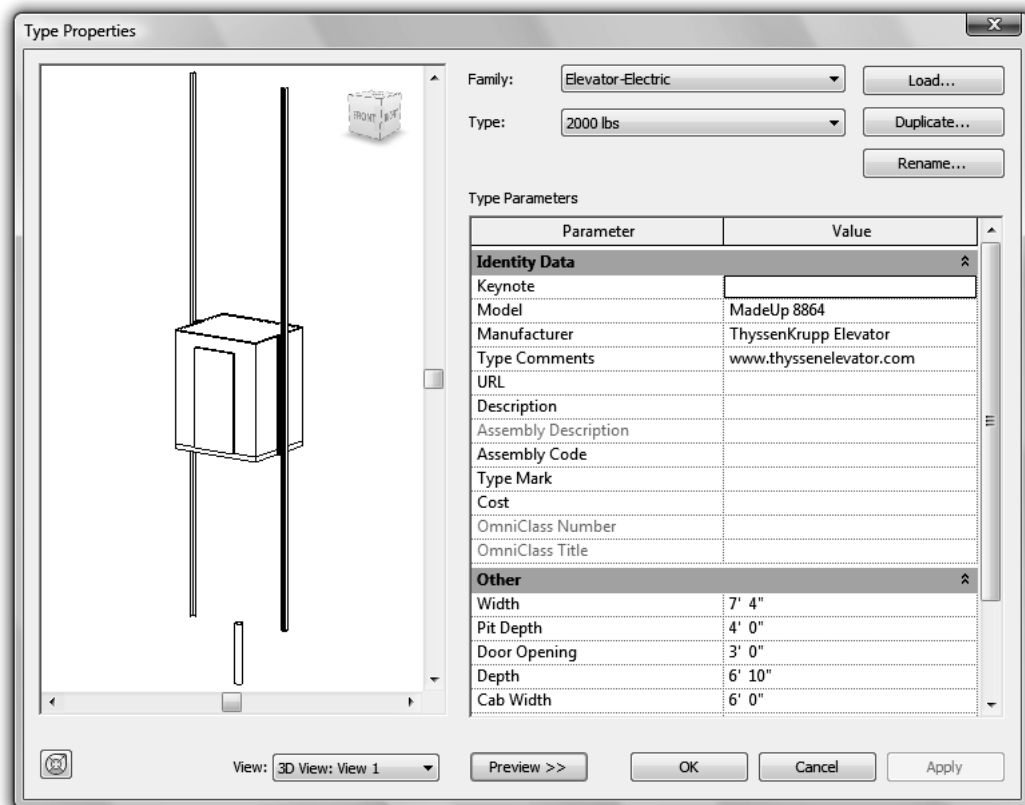

FIGURE 3-4.7 Elevator properties
16. Add the following information (Figure 3-4.7):